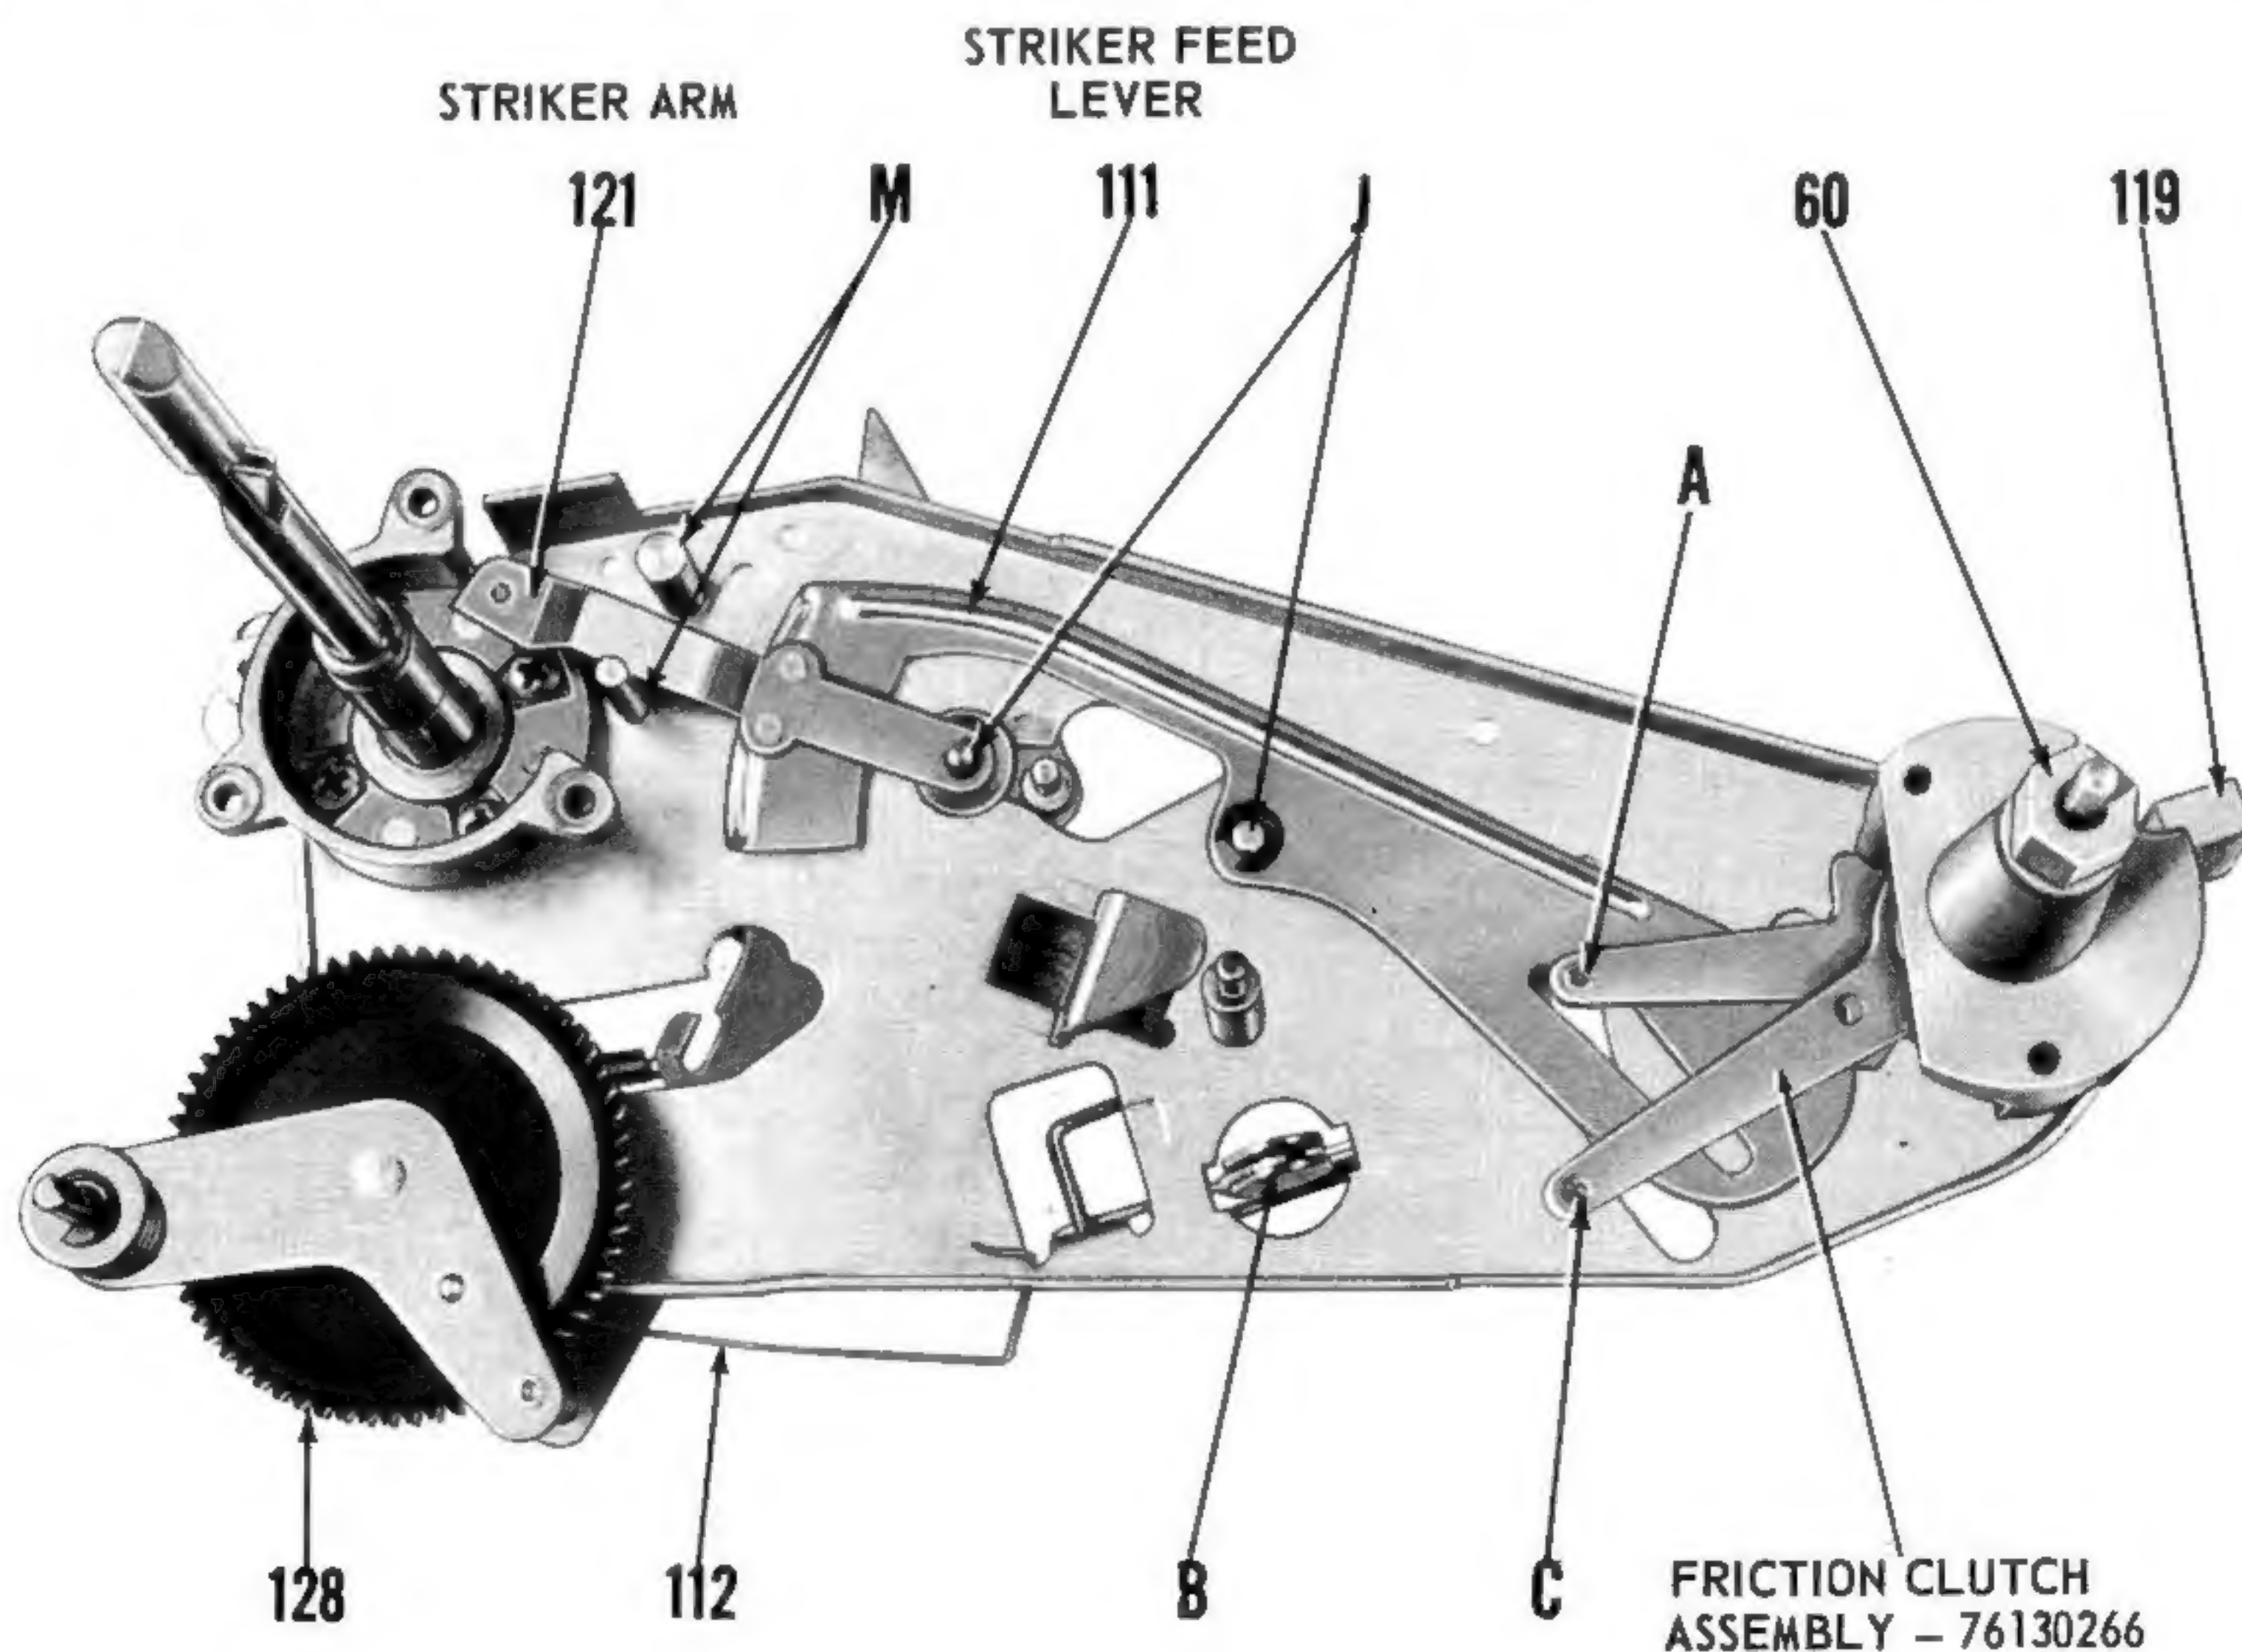

Figure 3--Sub-Plate Assembly with Cam Gear Removed
As the tone arm tracks on the record, the Pick-up Positioning Finger "A" in Figure 3, which moves in unison with the tone arm, pushes against the Striker Feed Lever (111). The Striker Arm (121) is fed inward toward the turntable hub by the friction of its own weight resting on the curved end of the Striker Feed Lever (111).
3. Striker Feed Lever (111) resting on sub-plate.
Check to see that the Striker Feed Lever (Figure 3) is perfectly free on its pivot "J" and is contacting the sub-plate at its forward end (under the Striker Arm). At the same time the Striker Feed Lever should be clear of the sub-plate at the rear end by approximately 1/16". If this clearance is insufficient, it may be increased by inserting a screwdriver between the Striker Feed Lever (111) and sub-plate and exerting a slight upward pressure.
1. Tightness or dirt on Pivots "J", see Figure 3.
3. Dirt on Pins labeled "M", Figure 3.